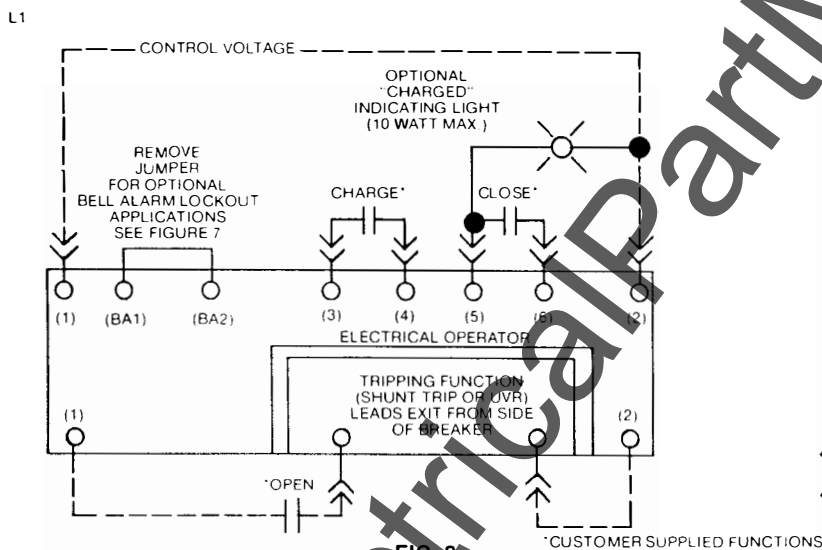

FIG. 9
- a) For Bell Alarm Lockout—Interconnect bell alarm switch to motor operator terminal board as shown in Figure 9.